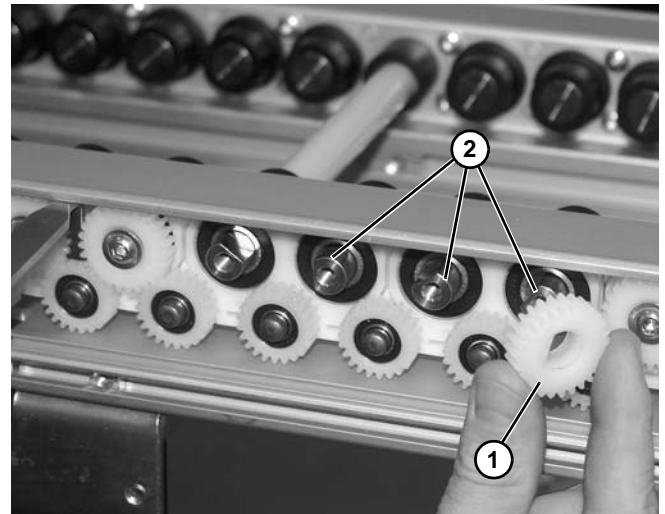

Figure 24
7. Repeat for removing remaining three gears (Figure 24, item 1) from three shafts (Figure 24, item 2) of bearing housing assembly.